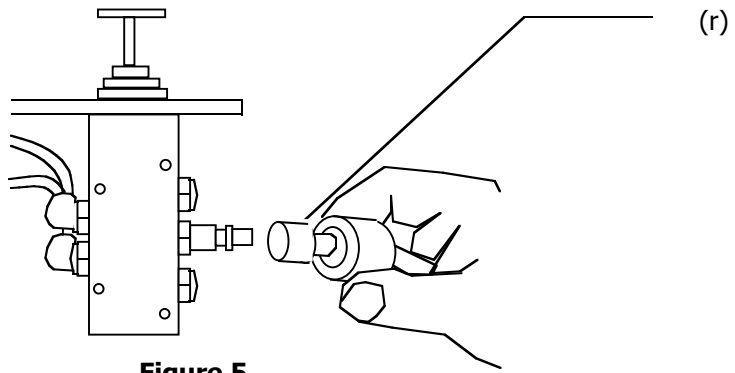

Figure 5
Connect to the air compressor through a 1/8 bayonet connector as shown in Figure 5.
1. Connect air compressor as shown in Figure 5.